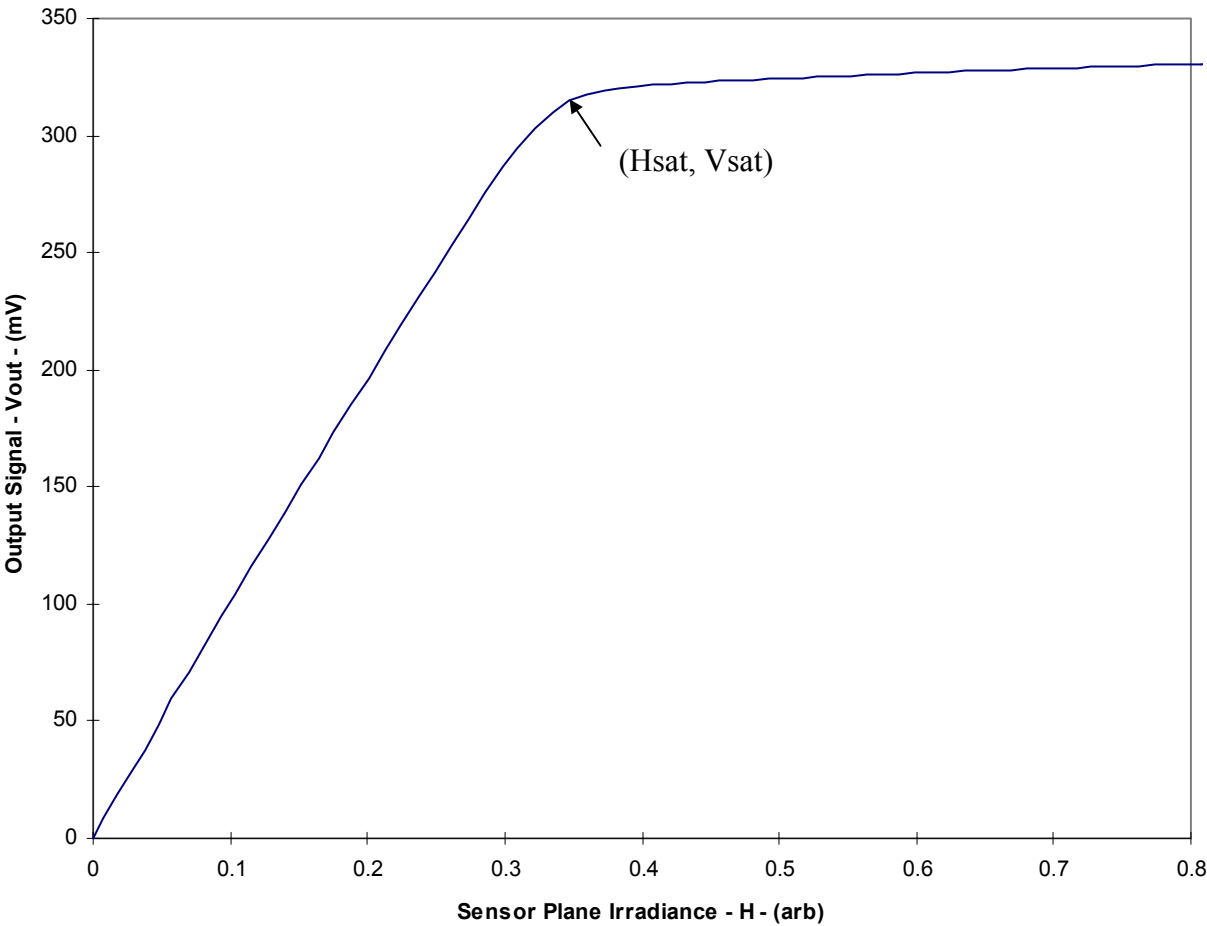

Figure 20 Typical KAI-0330D Series Photoresponse
6. Xab represents the increase above the saturation-irradiance level (Hsat) that the device can be exposed to before blooming of the vertical shift register will occur. It should also be noted that Vout rises above Vsat for irradiance levels above Hsat, as shown in Figure 20.